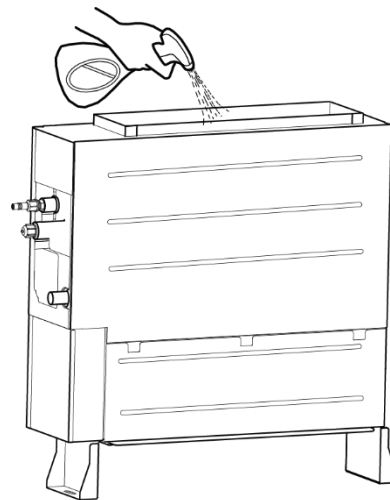

Fig. 4.3.10
- 2) Spray 1 L of water onto the evaporator using a spray bottle; see Fig. 4.3.10.